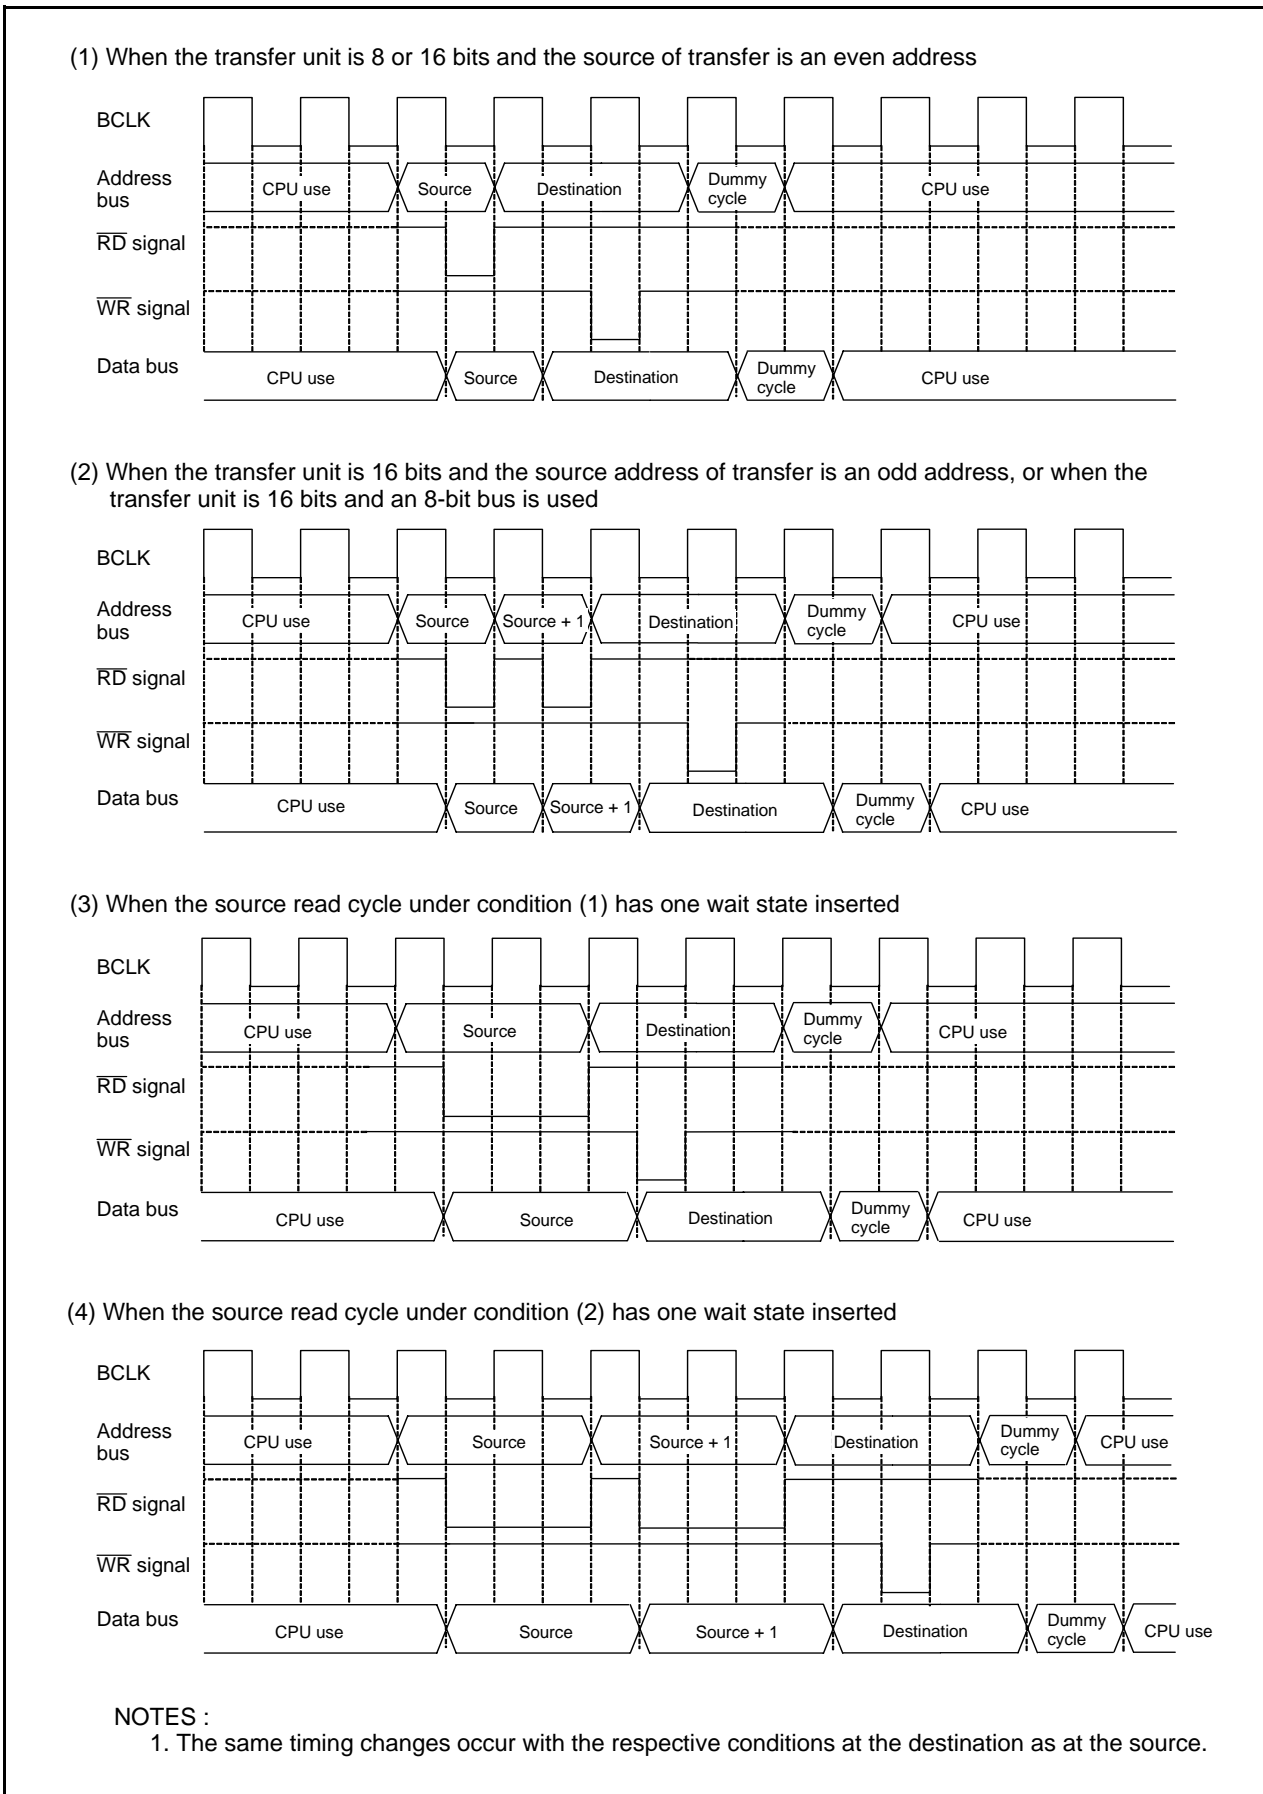

Figure 13.6 Transfer Cycles for Source Read
Figure 13.6 shows the example of the Transfer Cycles for Source Read. For convenience, the destination write cycle is shown as one cycle and the source read cycles for the different conditions are shown. In reality, the destination write cycle is subject to the same conditions as the source read cycle, with the transfer cycle changing accordingly. When calculating transfer cycles, take into consideration each condition for the source read and the destination write cycle, respectively. For example, when data is transferred in 16 bit units using an 8-bit bus ((2) on Figure 13.6), two source read bus cycles and two destination write bus cycles are required.